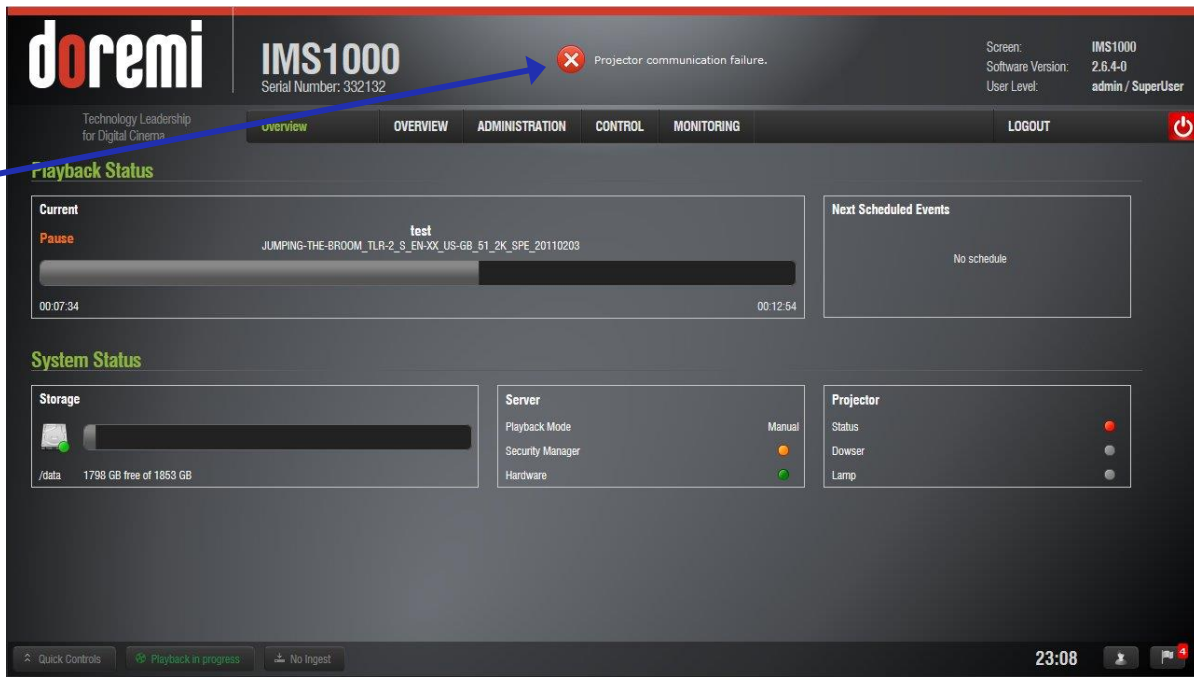

Figure 272: Projector Communication Failure
1. Projector communication failure (Figure 272).